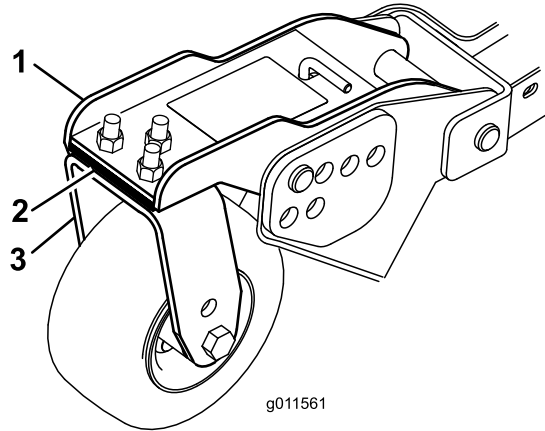

Figure 30
3. Adjust the shims (3 mm or 1/8 inch) on front caster arm(s) to match the height-of-cut decal (Figure 30).